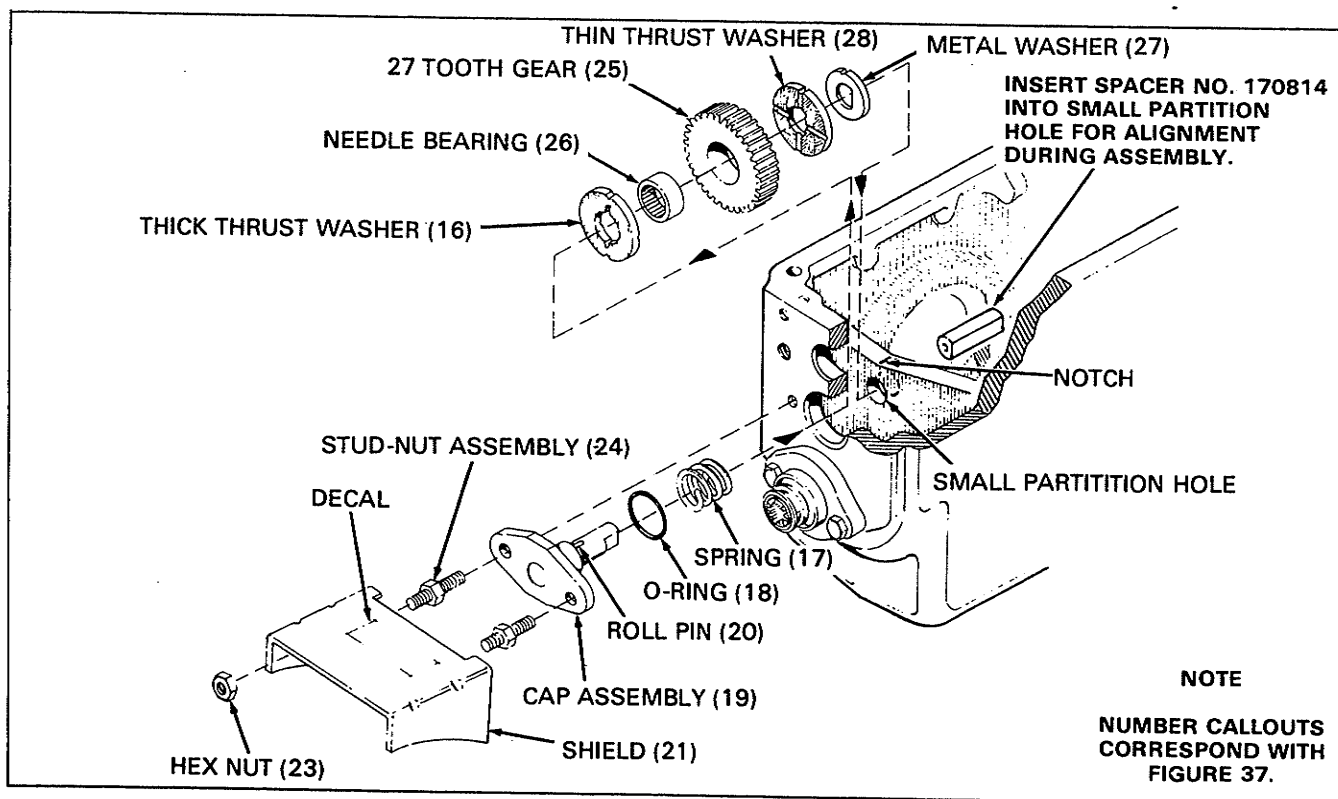

Figure 38. Intermediate Gear Removal and Installation
#### Intermediate Gear Assembly Removal and Inspection (Figure 38)
1. Insert spacer #170814 (not part of this assembly) into the small partition hole in the transmission case (see Figure 38).
2. Make sure needle bearing (26) is clean and lightly lubricated with Type A or Dexron automatic transmission oil and then press it into the 27-tooth gear (25).
3. Slide metal washer (27), thin thrust washer (28), gear (25 and 26) and thick thrust washer (16) in that order between the transmission case wall and the partition and onto the spacer located in the small partition hole. Make sure that the thrust washers have their notches out and their grooves facing the gear.
4. Install new o-ring (18), the two roll pins (20) and the spring (17) on the cap assembly (19) (see Figure 38).